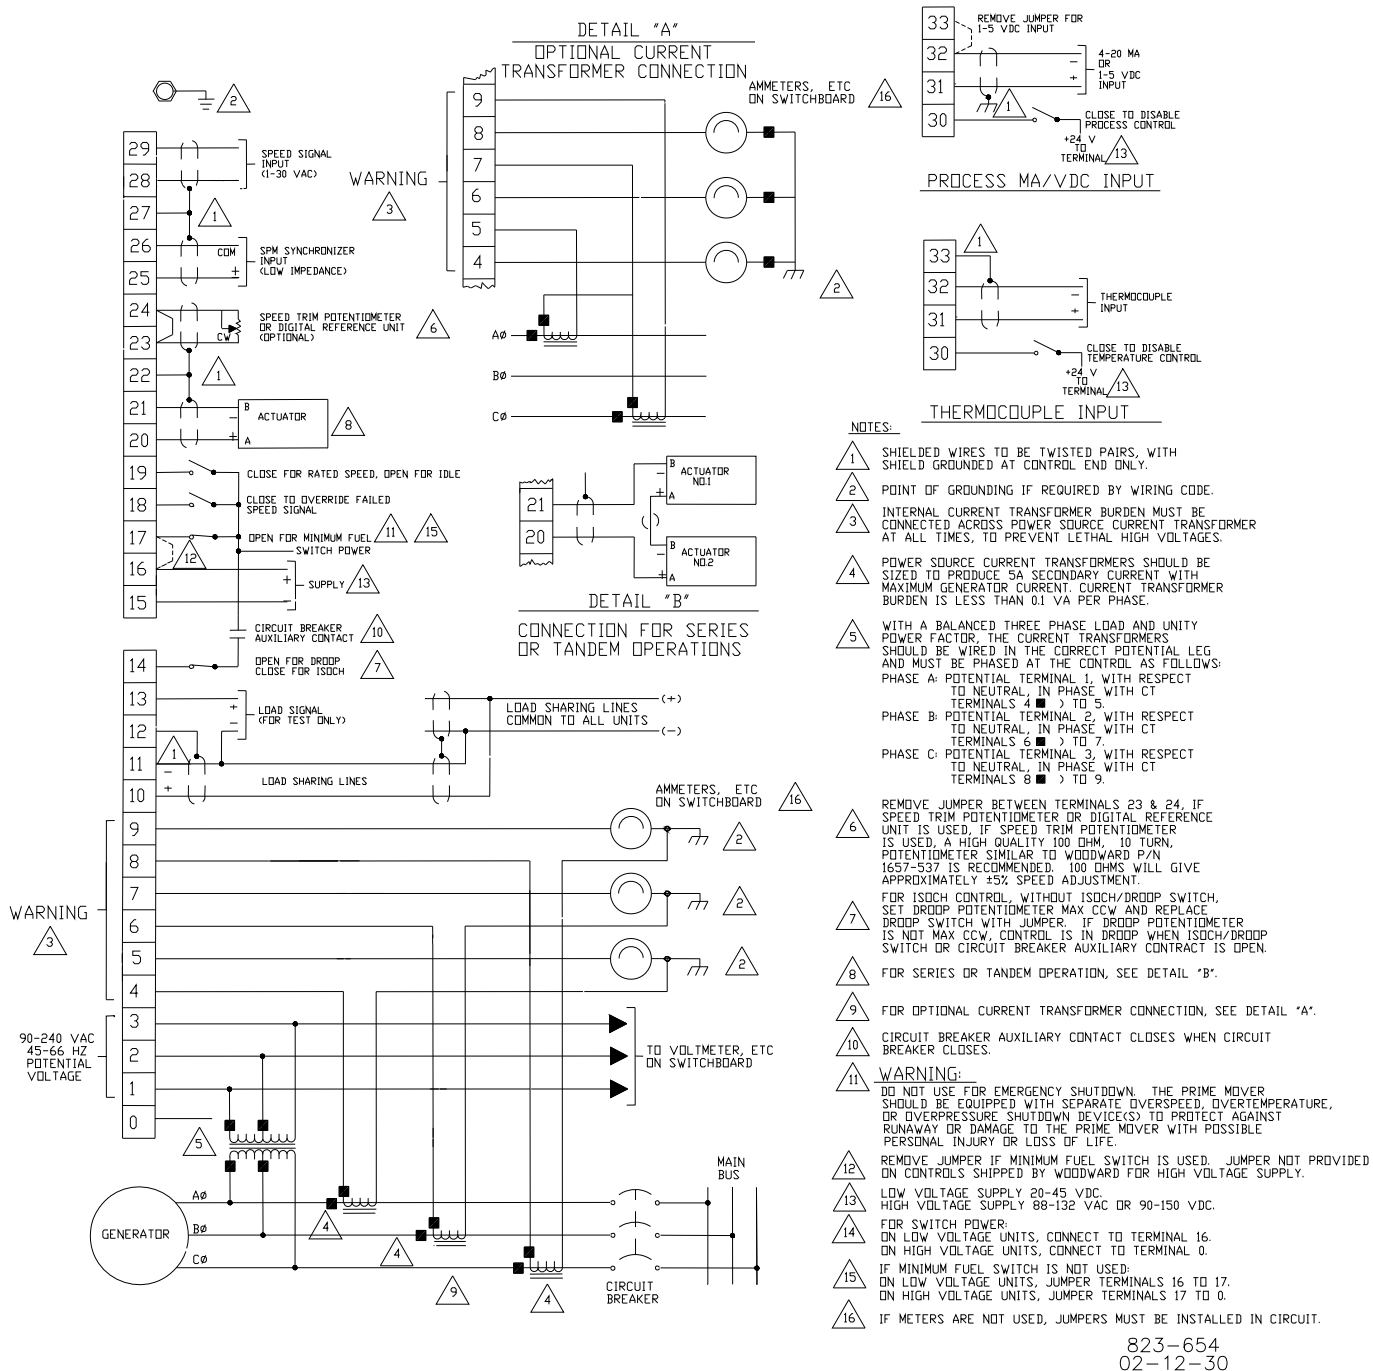
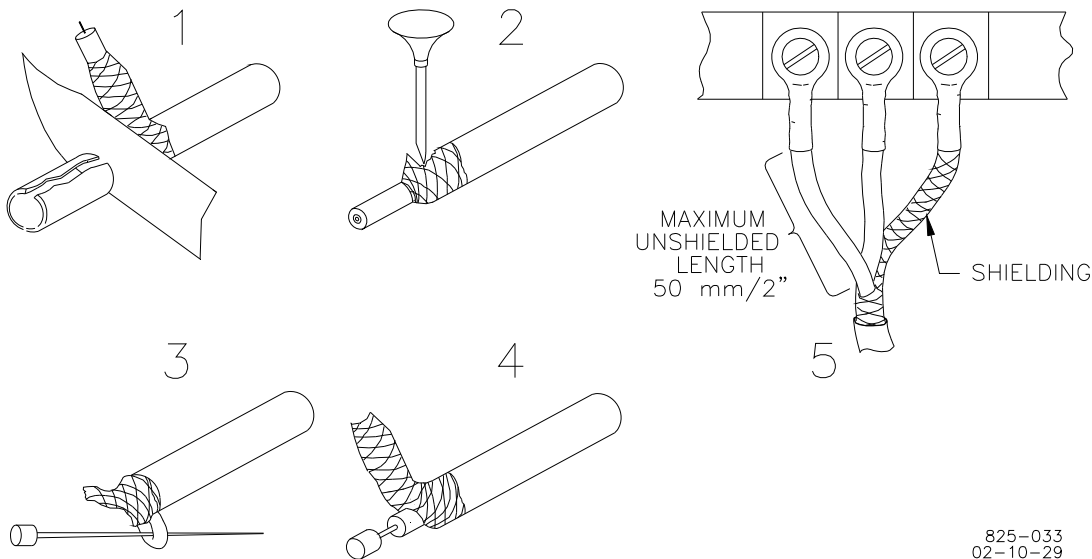

Figure 1-2. Plant Wiring Diagram
Figure 2-1. Preparation and Installation of Shielded Cables
External wiring connections and shielding requirements for a typical control installation are shown in the plant wiring diagram (Figure 1-2). These wiring connections and shielding requirements are explained in the balance of this section.
All shielded cable must be twisted conductor pairs. Do not attempt to tin the braided shield. All signal lines should be shielded to prevent picking up stray signals from adjacent equipment. Connect the shields to the control terminals as shown in Figure 2-1, and the plant wiring diagram (Figure 1-2). Wire exposed beyond the shield should be as short as possible, not exceeding two inches. The other end of the shields must be left open and insulated from any other conductor. Do not run shielded signal wires with other wires carrying large currents. See manual 50532, *EMI Control for Electronic Governing Systems*, for more information.
Where shielded cable is required, cut the cable to the desired length and prepare the cable as shown in Figure 2-1.
The potential transformer secondary line-to-line voltage must be in the 90 to 240 volt RMS range. Refer to the plant wiring diagram (Figure 1-2).
The standard method of connecting the current transformers is shown in the plant wiring diagram (Figure 1-2). An alternate method is the open delta connection shown in the insert in the plant wiring diagram.
The minimum-fuel contact is intended as an optional means for a normal shutdown of the prime mover. It is connected in series with terminal 16 (terminal 0 on high-voltage controls) and terminal 17 as shown in the plant wiring diagram (Figure 1-2). Do NOT remove this jumper from terminal 17 unless a minimum fuel contact is installed; the control will not operate without 20 to 45 V dc applied to terminal 17.
A jumper must be connected to terminals 23 and 24 unless an optional remote Speed Trim potentiometer is used. If a Speed Trim potentiometer is used, connect it as shown in the plant wiring diagram (Figure 1-2), using shielded wire. Connect the shield to terminal 22. Make sure the shield has continuity the entire distance to the potentiometer, and that the shield is insulated from all other conducting surfaces. A 100  $\Omega$  potentiometer will provide  $\pm 5\%$  speed adjustment. If less adjustment is desired, potentiometers of smaller values may be used. Potentiometers of the multi-turn type are recommended.
- B. Check for correct wiring per the plant wiring diagram (Figure 1-2).